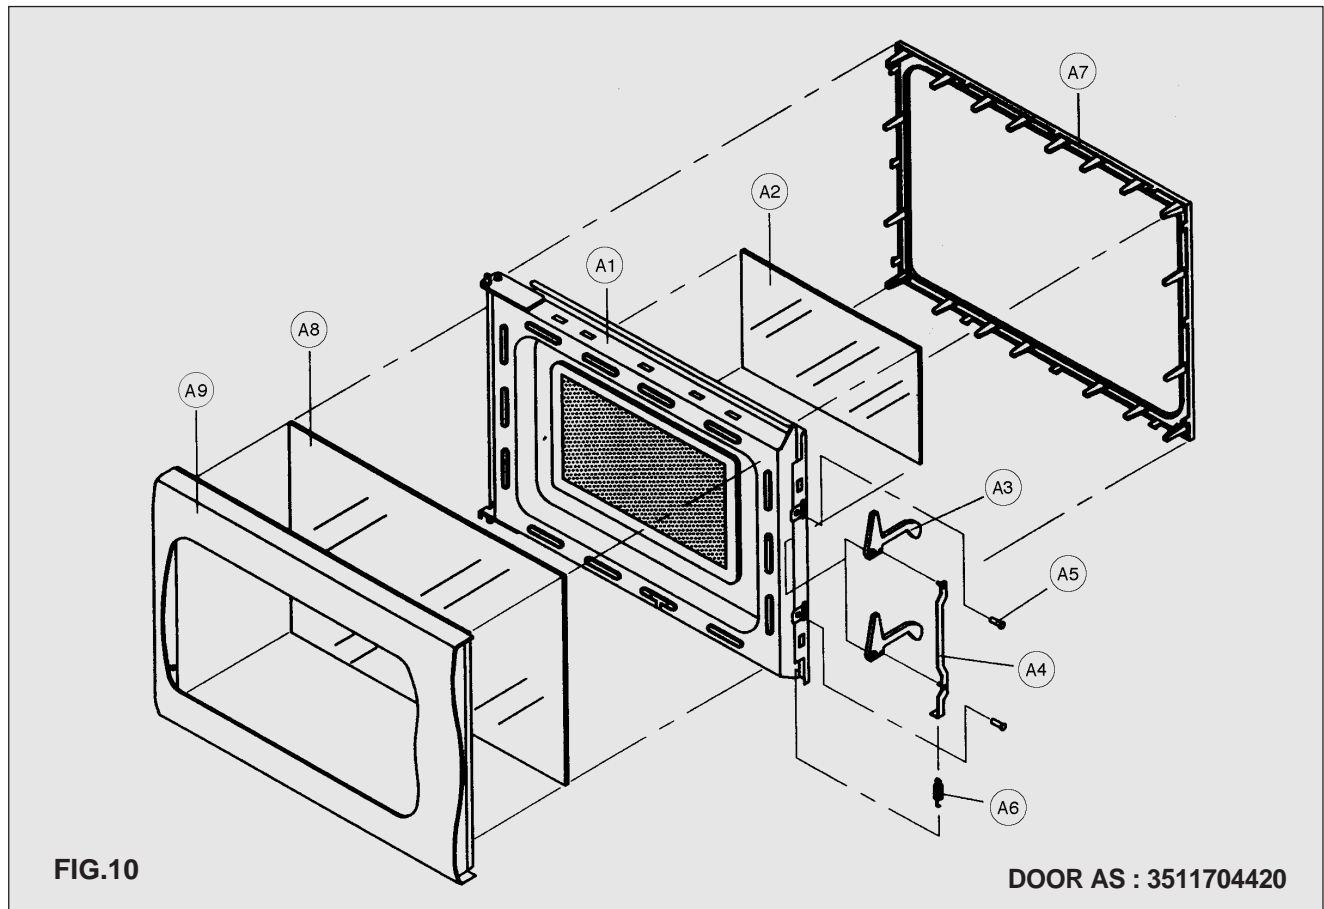

FIG.10
8. To remove door parts (Refer to Fig. 10)